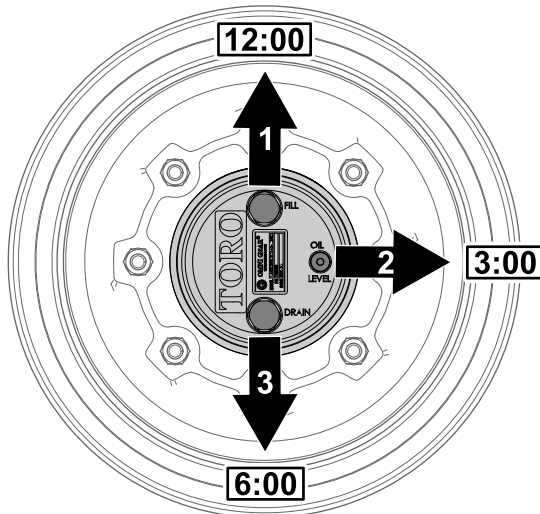

Figure 99
1. Park the machine on level surface and position the wheel so that the fill plug is at the 12 o'clock position, the check plug is at 3 o'clock position, and the drain plug is at the 6 o'clock position (Figure 99).
2. Remove the check plug at the 3 o'clock position (Figure 99).
1. Park the machine on level surface, position the wheel so that the fill plug is at the 12 o'clock position, the check plug is at 3 o'clock position, and the drain plug is at the 6 o'clock position; refer to Figure 99 in Checking the Planetary Gear-Drive Lubricant (page 68).